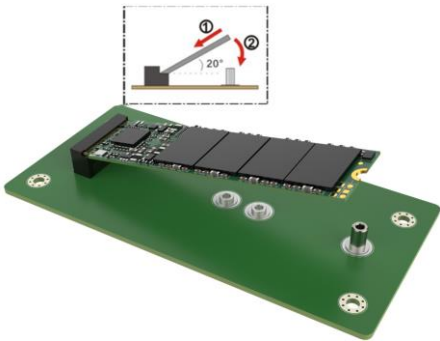

Figure 3-10: Insert the M.2 SSD Module
Step 3: Line up the notch on the module with the notch on the slot. Slide the M.2 module into the slot at an angle of about 20° (**Figure 3-10**).